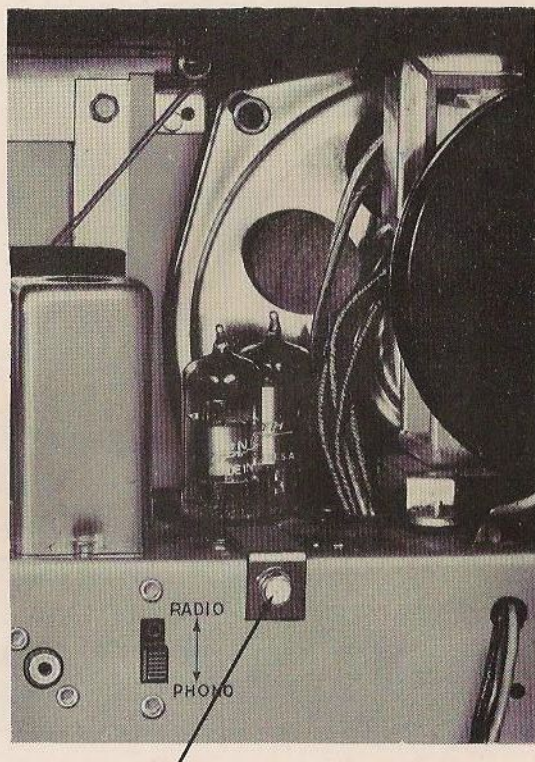

Figure 5—Remove screw to take off ballast adaptor cover plate.
E. If the receiver is to be used in locations where a current supply of 220-240 Volts AC or DC is available, ballast adaptor S-15715 should be used. This ballast adaptor assembly can be obtained from your local Zenith distributor and need only be plugged into the ballast adaptor socket. The ballast adaptor socket is under the cover plate. This cover plate can be removed by unfastening the cover plate mounting screw. (See fig. 5.)